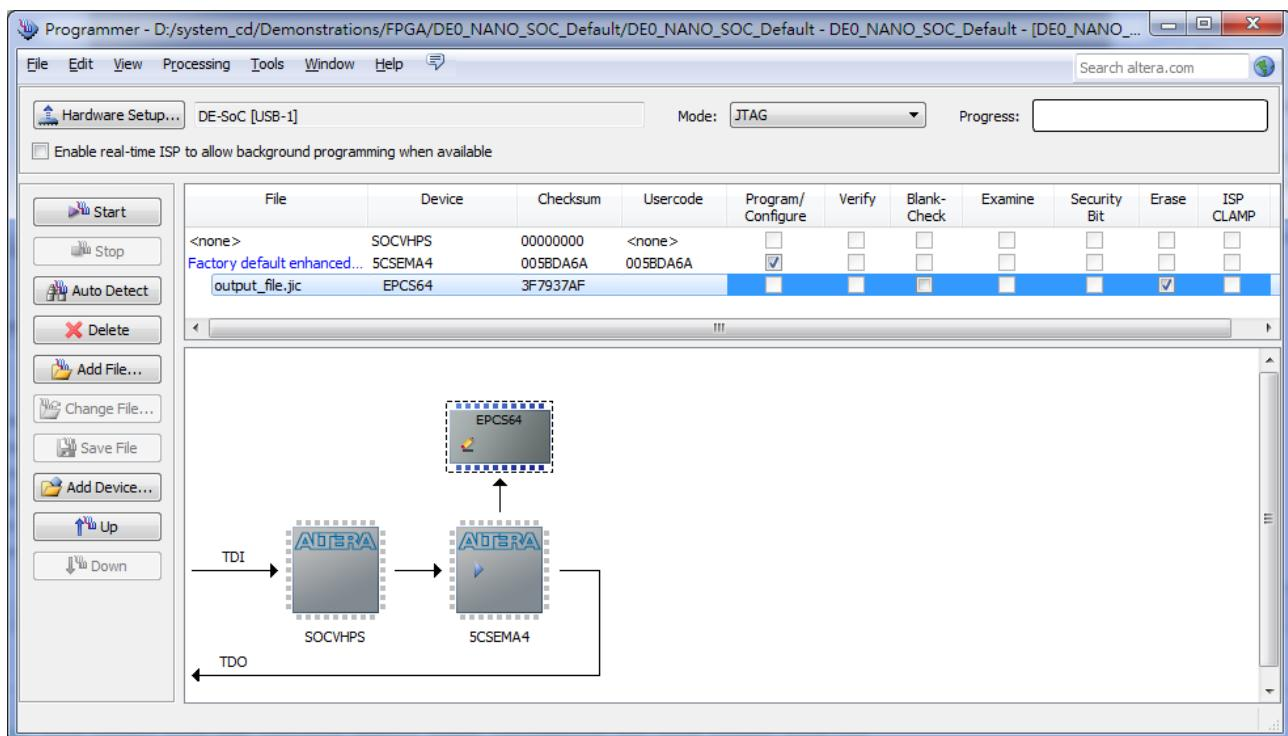

Figure 8-9 Erase the EPCS device in Quartus II Programmer
5. Erase the EPICS device by clicking the corresponding **Erase** box. A factory default SFL image will be loaded, as shown in **Figure 8-9**.